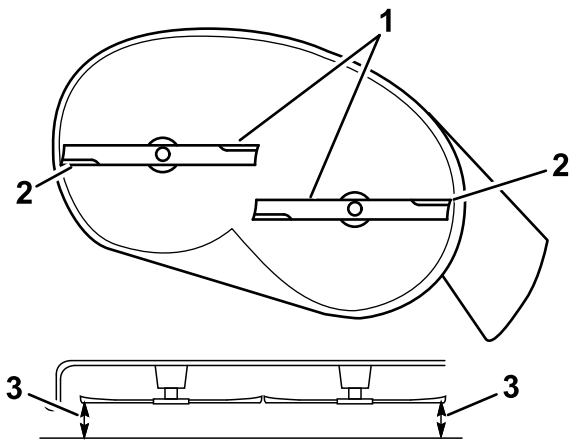

Figure 58
5. Measure between the outside cutting edges and the flat surface (Figure 58).
4. After adjustment, check the front-to-rear slope again, continue adjusting the nut until the front blade tip is 1.6 to 7.9 mm (1/16 to 5/16 inch) lower than the rear blade tip (Figure 58).